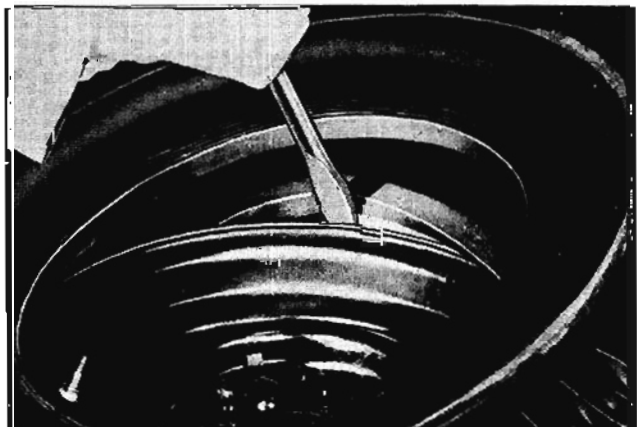

Fig. 9-47 Mounting Tire
3. Carefully mount inner bead in usual manner. If tire irons are used, take small "bites" around rim being careful not to injure the tire bead. (Fig. 9-47)